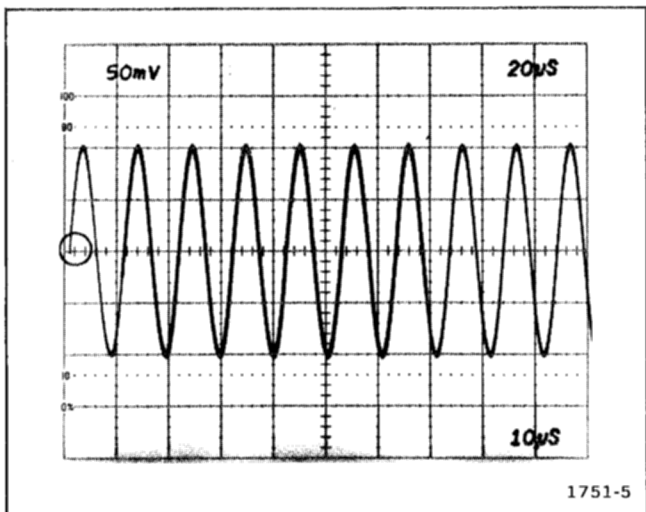

Fig. 5-5. DC balance. (Circle denotes correct trigger point).
- b. Adjust—Int DC Bal, R75, for a sweep trigger point at graticule centerline (TRIG'D light on). See Fig. 5-5 for reference.
- b. Adjust—Ext DC Bal, R99, for a sweep trigger point at graticule centerline (TRIG'D light on). See Fig. 5-5 for reference.
- f. Adjust—Int DC Bal, R255, for a sweep trigger point at graticule centerline (TRIG'D light on). See Fig. 5-5 for reference.
- b. Adjust—Ext DC Bal, R230, for a sweep trigger point at graticule centerline (TRIG'D light on). See Fig. 5-5 for reference.